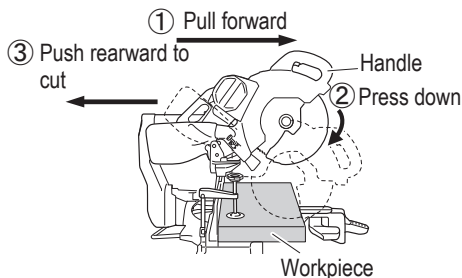

Fig. 28
Then press down on the handle and slide the saw blade backward to cut the workpiece as indicated in Fig. 28. This facilitates cutting of workpieces of up to 4-3/16" (107 mm) in height and 12-1/4" (312 mm) in width.
- For slide cutting, follow the procedures indicated above in Fig. 28.